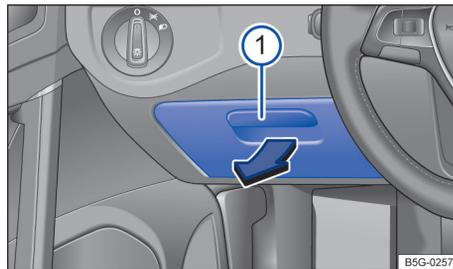

Fig. 126 On the driver side: Storage compartment.
– To open: Pull the handle → fig. 126  in the direction of the arrow.